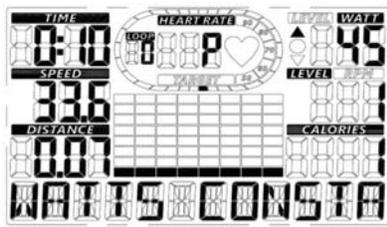
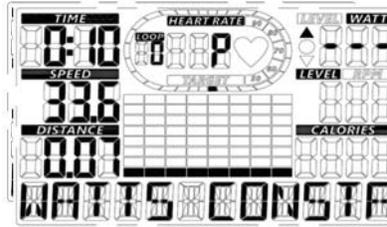

Fig. 28
Fig. 29
- During the workout, watt window displays “▲” to indicate runner speed is 25% higher than the standard value and suggest the runner to slow down the speed. (Fig. 28) If the value changes to “---” and with a short beep sound every two seconds, this indicates that the runner speed is 50% higher than the standard value (Fig. 29). If it is still 50% higher after one minute, there will be 2 short beep sounds every second and the console stops automatically after 30 seconds.